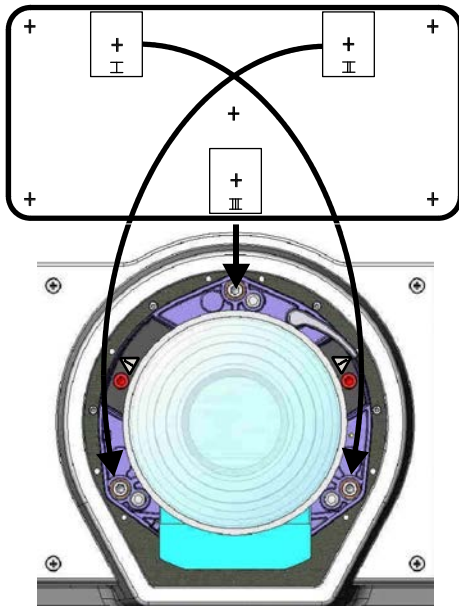

FIGURE 2-16 CROSS-HAIR PATTERN
3. If boresight is required, refer to Figure 2-16 to understand how the adjustment screws on the lens mount affect the corresponding cross-hairs on the test pattern.